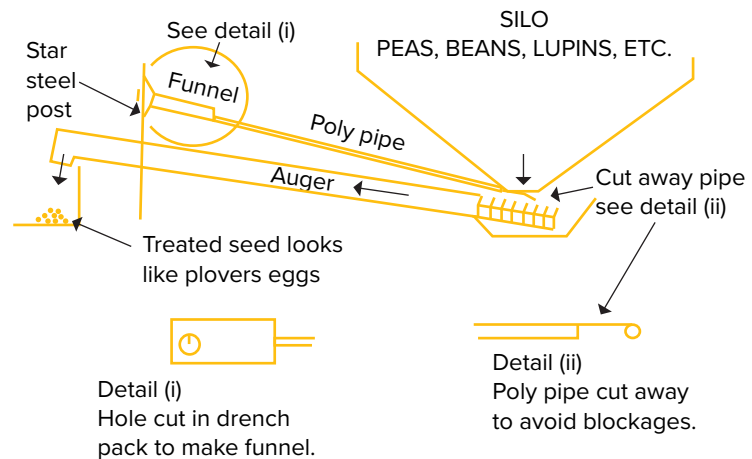

Figure 2: Applying inoculum through an auger.
2. Through an auger (see Figure 2). Make sure the auger is turning as slowly as possible. Reduce the height of the auger to minimise the height of seed-fall. Perhaps add a slide, e.g. tin, to the outlet end of the auger to stop seed from falling and cracking. Meter the slurry in, according to the flow rate of the auger (about a 250g packet per 100 kg seed). If the auger outlet is out of reach, e.g.